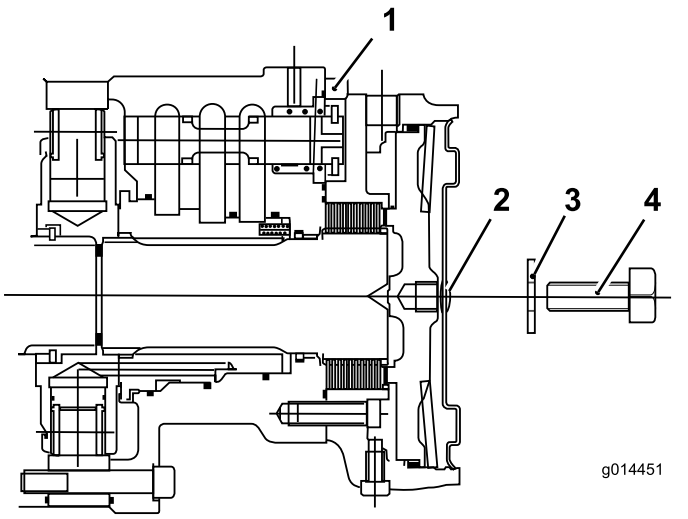

**Figure 47**
3. Close the bypass valve on the transmission pump (Figure 47) by turning it clockwise.